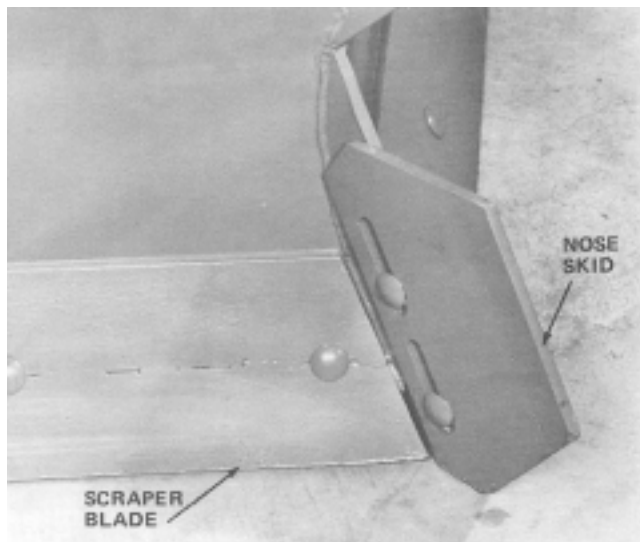

Figure 11
2. Loosen carriage bolts and nuts retaining nose skid to front of plow (Fig. 11). Next, adjust nose skid so its bottom edge is even with bottom of plow (Fig. 11). Lastly, tighten nuts and carriage bolts so nose skid remains in place.
Important When scraper blades or nose skid (Fig. 11) wear down, they can be reversed by removing carriage bolts and nuts. Never allow scraper blades or nose skid to wear even with bottom surface of plow. Reverse scraper blades or nose skid before plow starts to wear.